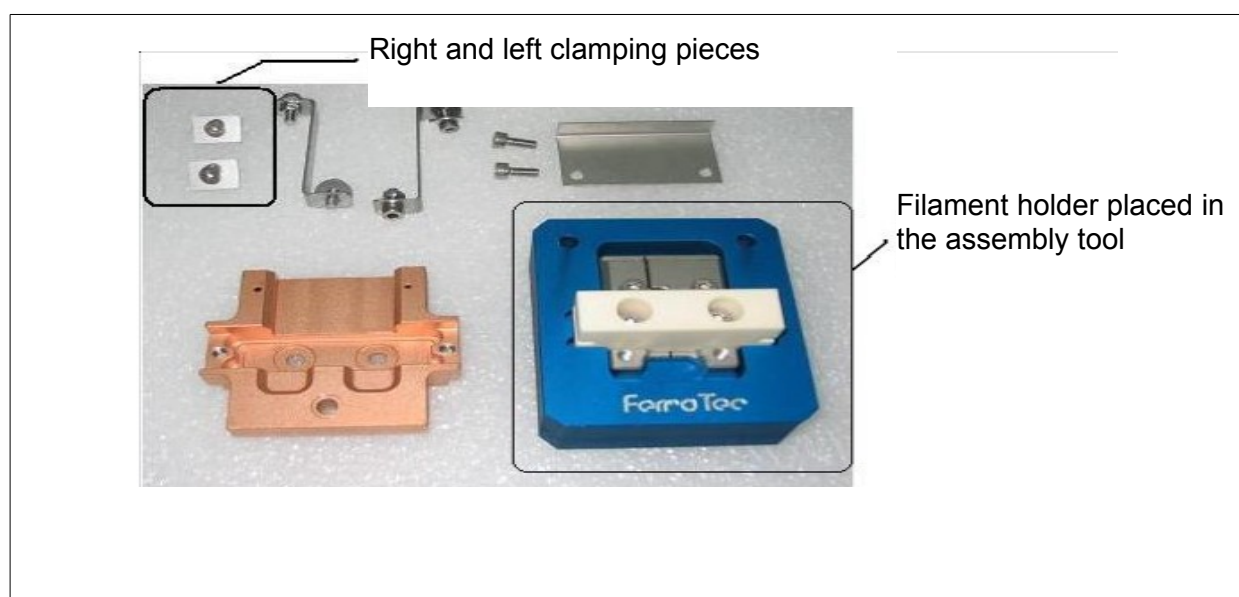

Fig. 8-9 Clamping Pieces and Assembly Tool
- Adjust the calibration pin at the drive unit so that it can catch in the groove in the decoding cylinder as shown in fig. 8-9. For this the calibration pin must be turned 90° out of its standard setting. The pin must catch in the groove in the decoding cylinder by spring force during a crucible rotation so that it can lock it.